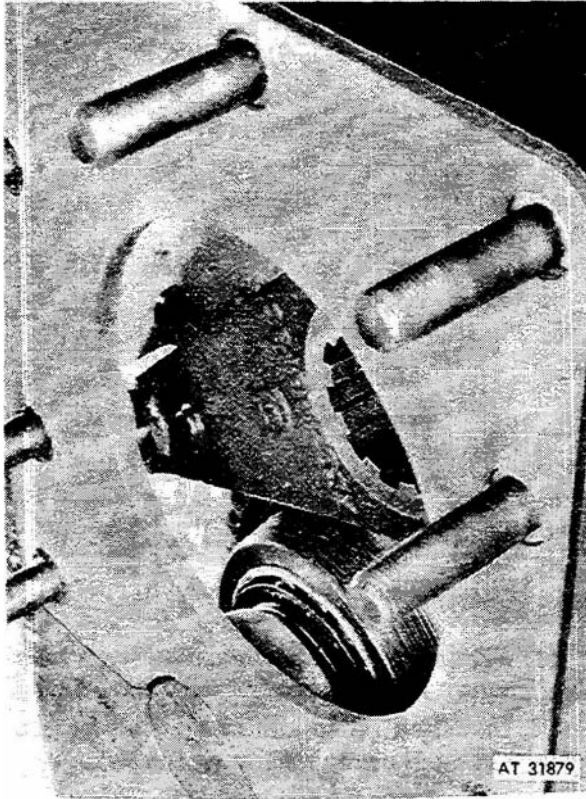

Figure 3-83. Proper position of differential shifter fork.
(30) Install HI-LO and differential shifter forks (24 and 28, fig 3-42) into transfer case and install HI-LO and differential shifter shafts (22 and 31) into transfer case through shifter forks (fig 3-83).